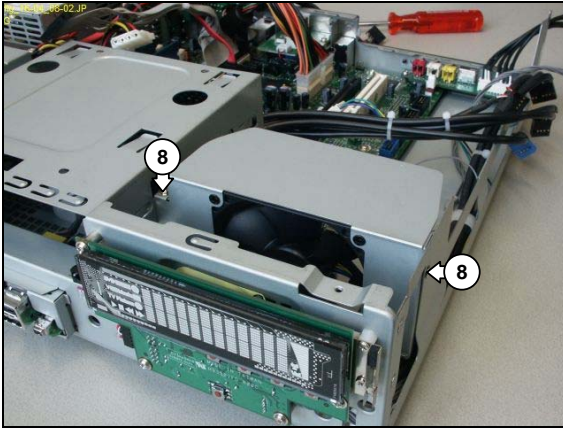

Figure 12.15-4
3. Remove the 2 mounting screws (8) from the CPU fan subassembly. See Figure 12.15-4.